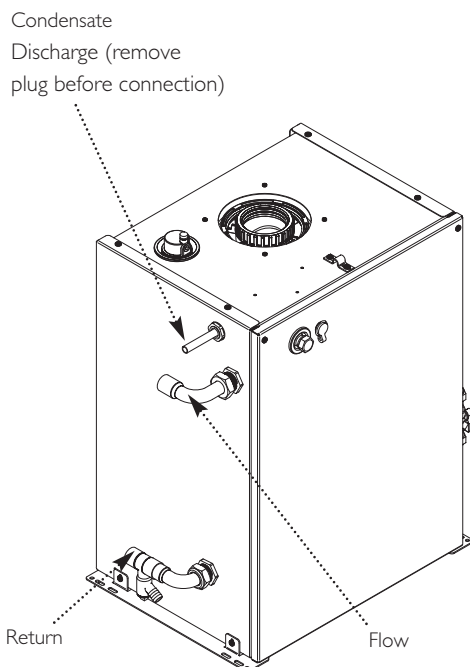

Fig. 36
1. The boiler has one return and one flow connection. The flow is the upper connection. It is essential the flow and return pipes are connected correctly (Fig. 36).